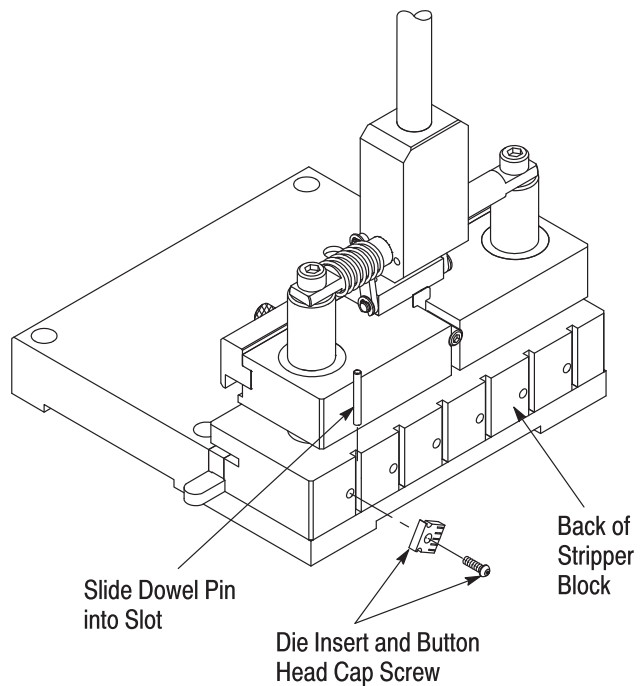

Figure 5
6. Store unused die inserts (with button head cap screws and dowel pins) on the back of the stripper block. Align the hole in the die insert with one of the holes in the stripper block and, using the button head cap screw, secure the die insert to the stripper block. Slide the dowel pin into the slot next to the hole. See Figure 5.